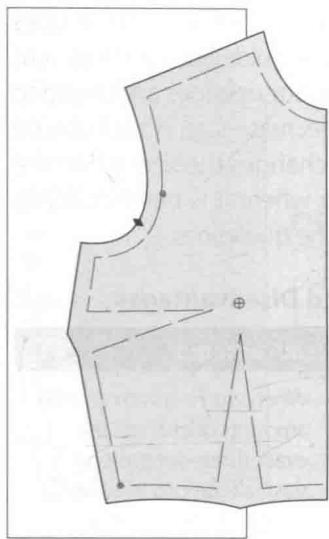

FIGURE 6.29a Establish pivot points on the pattern stitching line to alter for the larger bust.
2. Establish pivot points on the pattern stitching line as necessary (see Figure 6.29a):
Exercise: To develop your own alteration skill with the pivot method, use the bodice illustrated in Figures 6.29a through 6.29e, for example, and practice the pattern alteration procedures on a half-scale pattern. Assume a $\frac{3}{8}$ inch amount of change for half-scale practice.